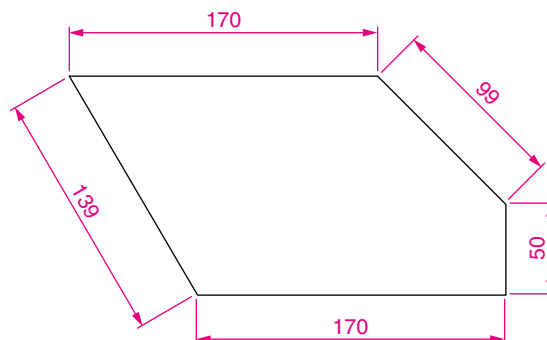

Fig. 6.5 Second example – Aligned dimension
### Second example – Aligned Dimension (Fig. 6.5)
1. Construct the outline Fig. 6.5 using the **Line** tool.
1. Construct the outline Fig. 6.5 using the **Line** and **Fillet** tools.